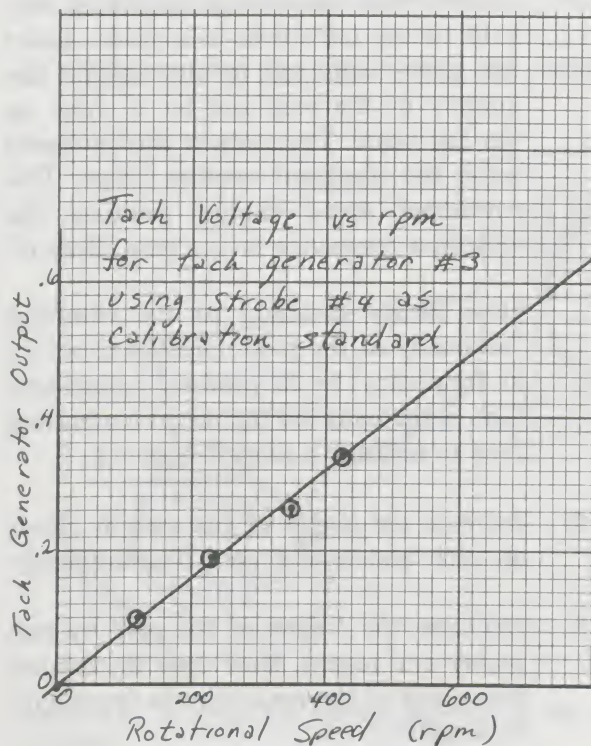

Figure 14. Typical scales to use when making your calibration graph. The graph should be clearly titled.
1. *Select convenient scales* for each axis so that they are easy to read (for example, 10 divisions equals 100 rpm) and so that the range of your data fills the paper as nearly as possible. See Figure 14.